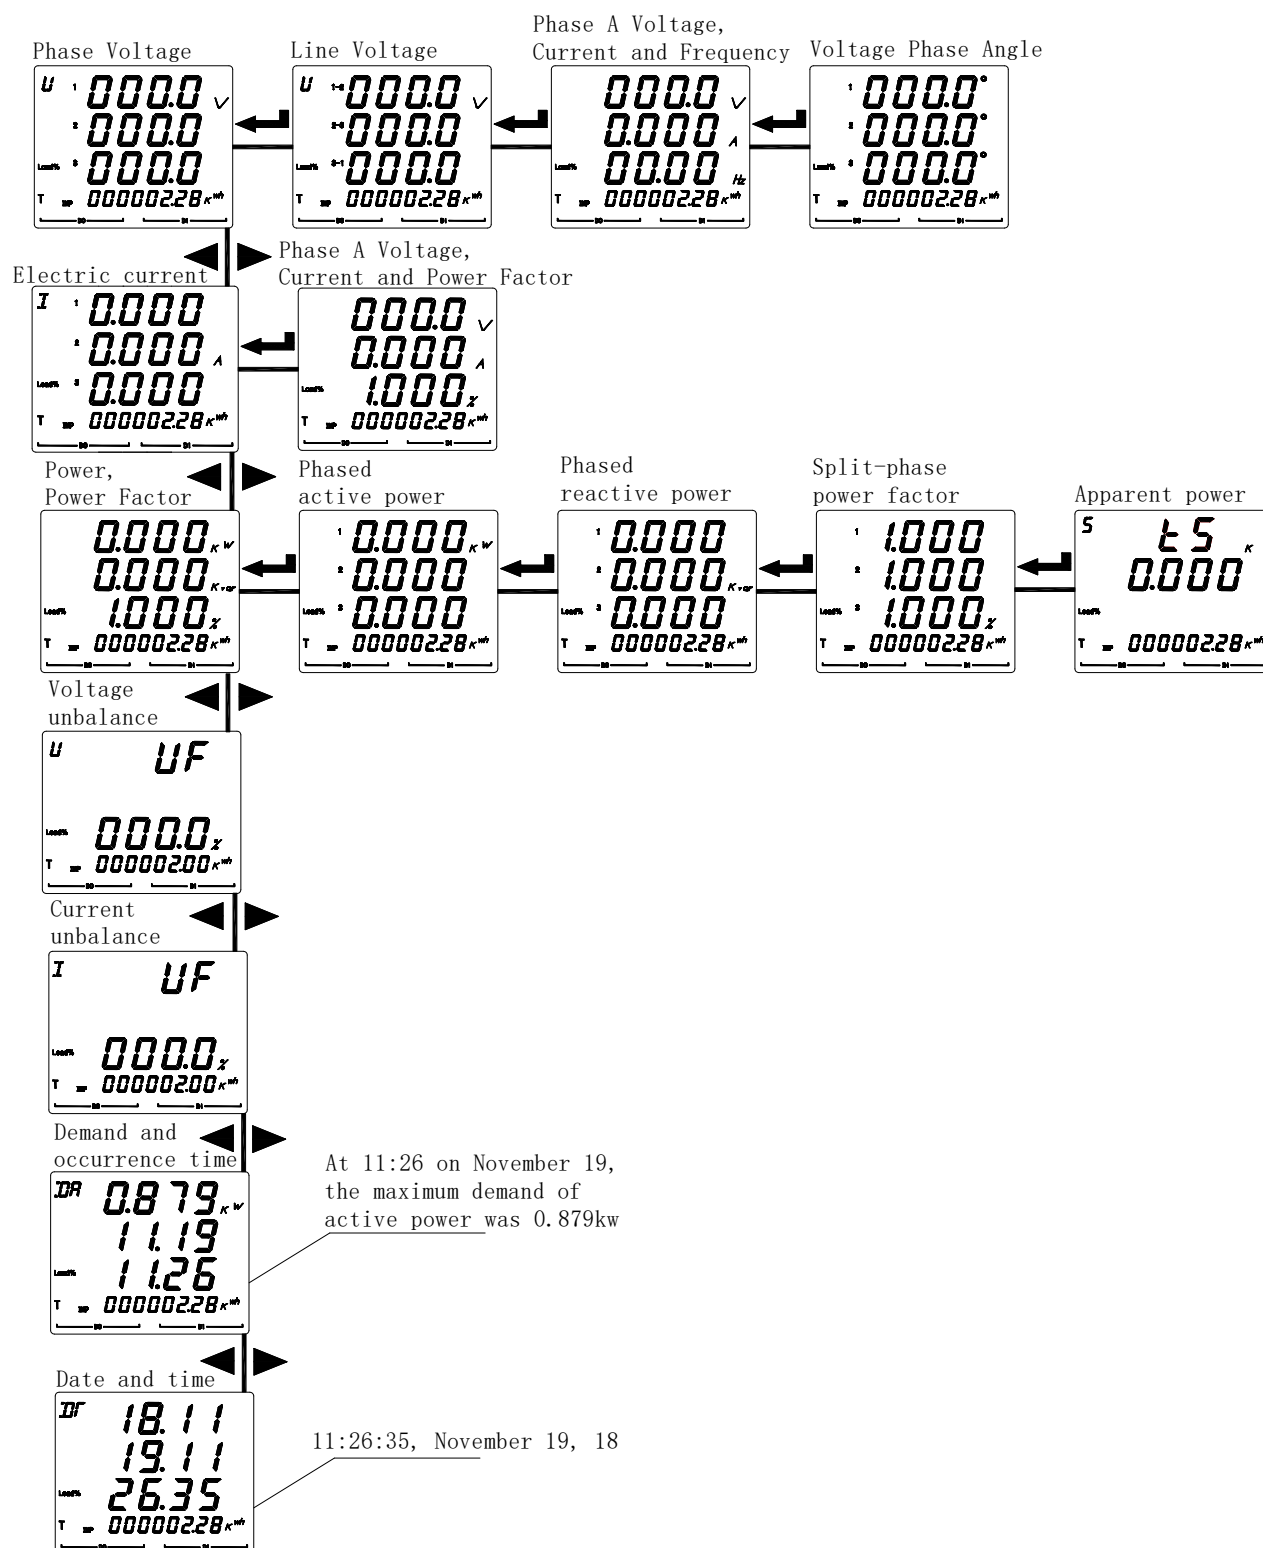

Figure 18
5.2.4 View the power parameters of the AMC72L/96L as shown in Figure 18,19.